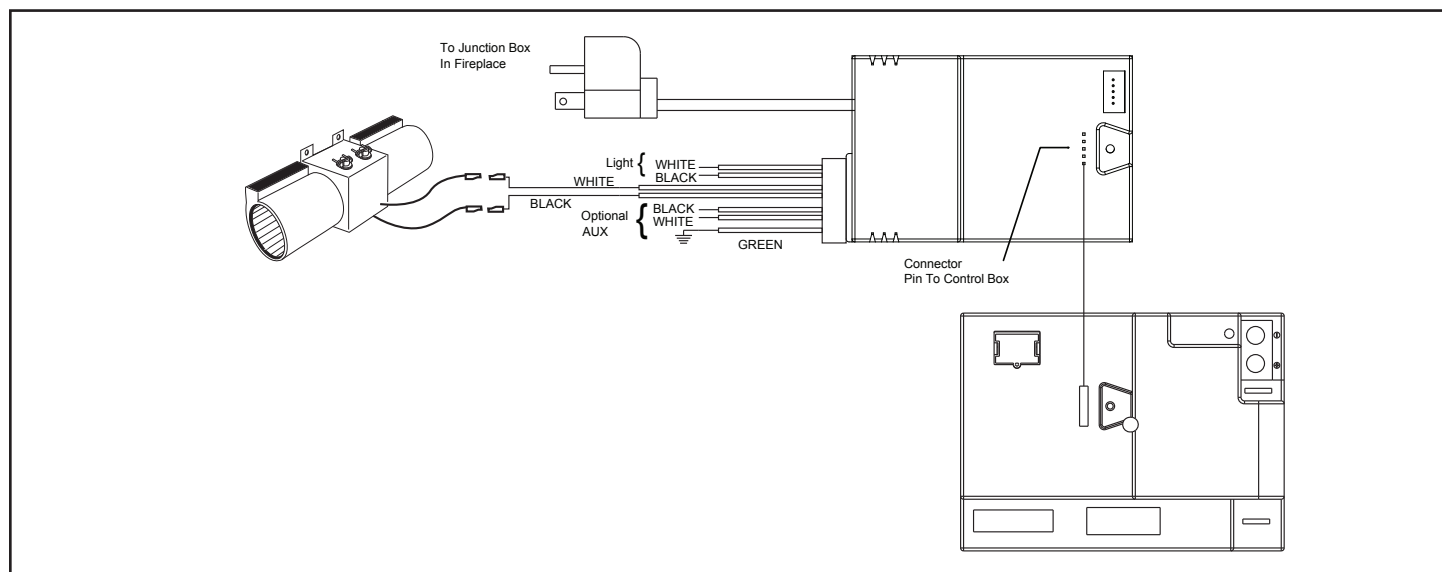

Figure 3.38 - Blower Wiring Diagram
- Connect the blower wires to the wire control board. See Figure 3.38.